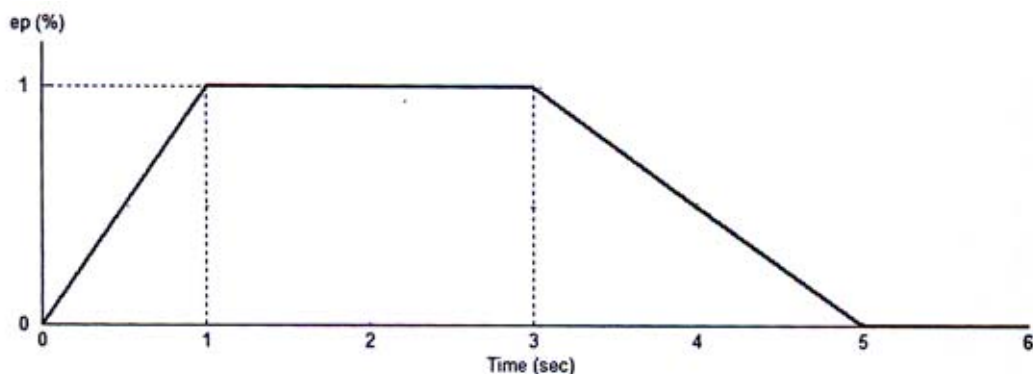

Fig. 1 : Error (Q.5b)
b) Calculate the output of PID Controller as a function of time; for the error shown in Fig. 1., with $K_p = 5$, $K_i = 0.7/s$, $K_d = 0.5s$ and $P_1(0) = 20\%$